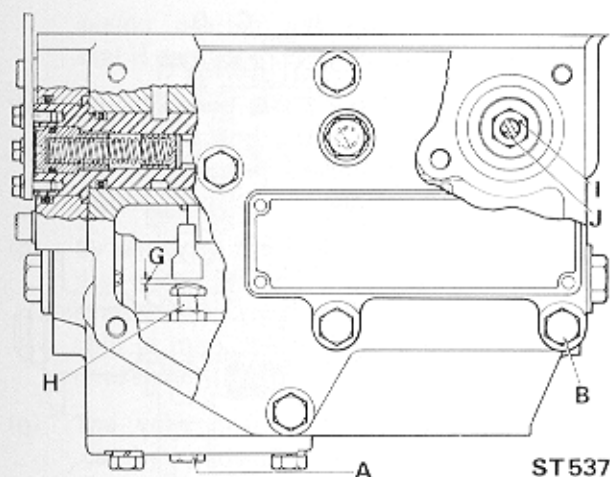

Fig. 126A. Adjusting Hydraulic Reverse Gear
Hydraulic pressure is used only to obtain 'neutral' and 'astern' positions. There is no high oil pressure in the ahead position and therefore the power loss in this position is small. If this hydraulic system fails the clutch remains engaged in the ahead position. The propeller shaft remains engaged with the crankshaft until the engine is started when it disengages in 2-3 seconds if the control is in neutral position. If it is decided to free the ahead clutch with the engine stopped, as for example, for lining up the engine coupling during installation, the screw (A) is removed, replaced by screw (B) and screwed carefully until the clutch just disengages and no more. The screws must be replaced before starting the engine (see Fig. 126A).
N.B.—Prior to replacing screw (A) with screw (B) it is necessary to check correct gap of 2.4 mm (0.094").
#### Ahead Adjustment (Fig. 126A)
#### Astern Adjustment (Fig. 126A)